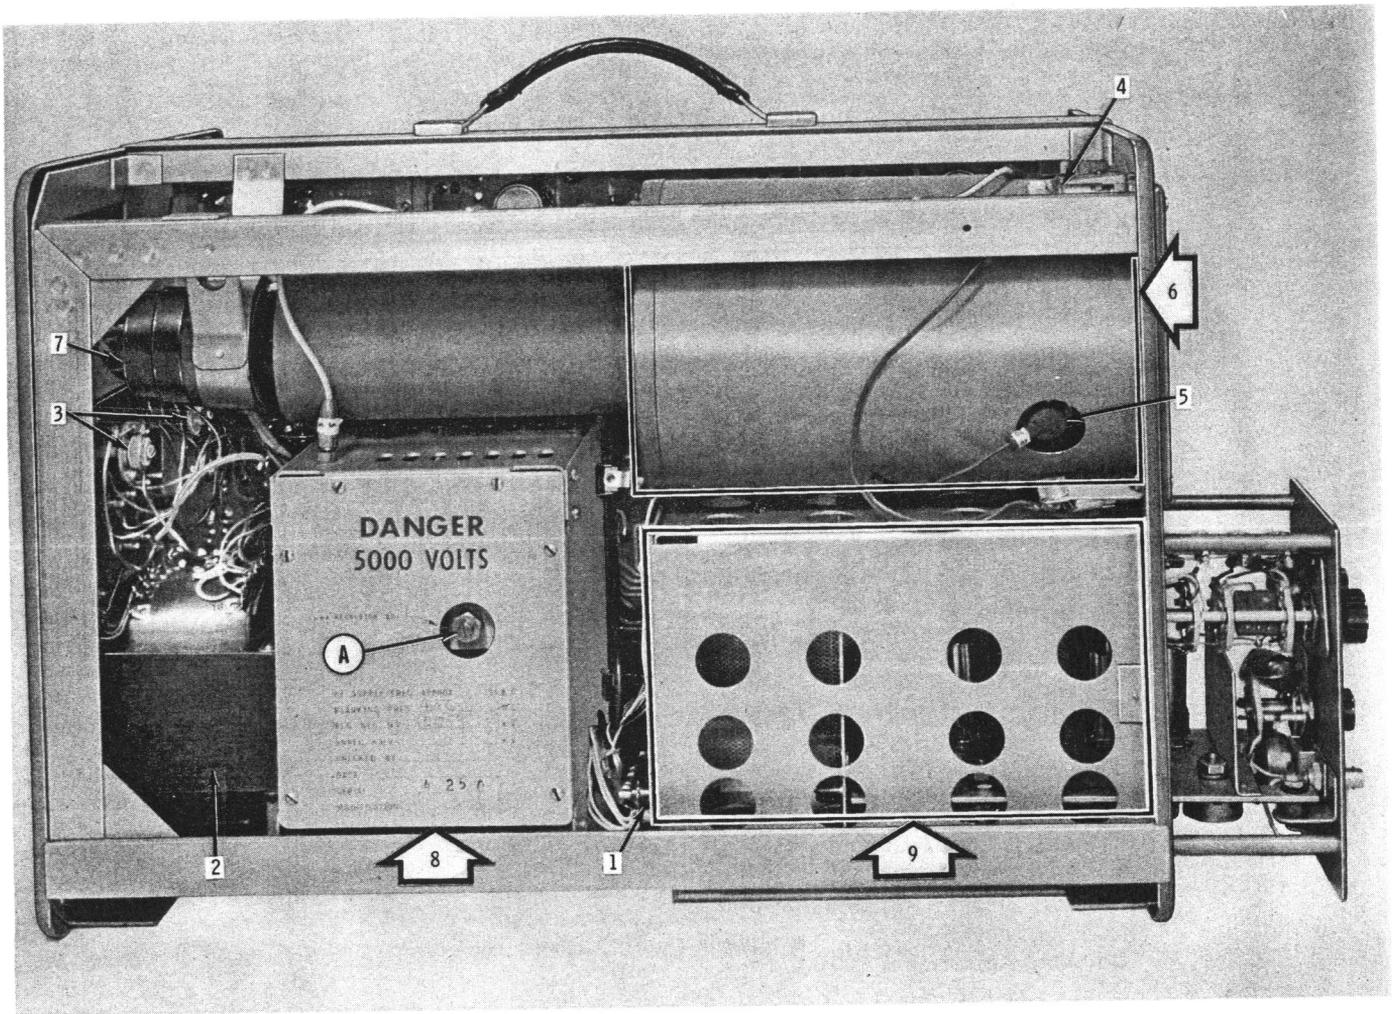
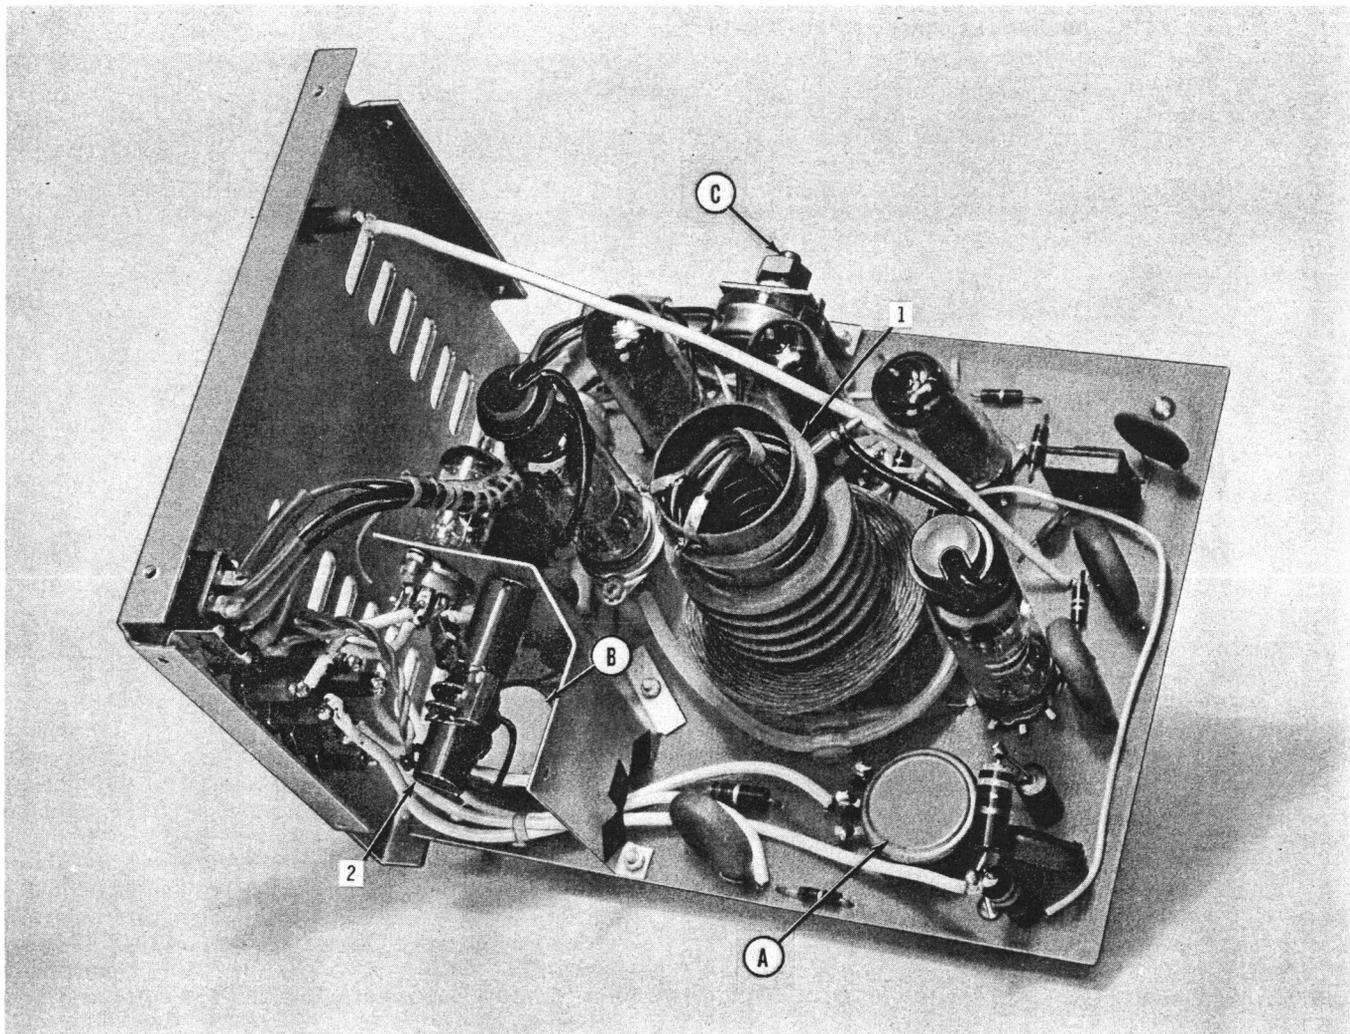

Figure 10. Left-Hand Side View, Model 104-D
Figure 11. High Voltage Power Supply
KEY TO FIGURE 10:
8. High Voltage Power Supply Assembly (see figure 11)
KEY TO FIGURE 11:
Check tube V601; check for -2.6 kilovolts at J4. If V601 is replaced, or if -2.6 kilovolt level is incorrect, adjust R258 (see "C", figure 11 and "A", figure 10), use a 20,000 ohms per volt voltmeter for measurement.
Check resistor R227; if replaced, readjust R258 in high voltage power supply (see "C", figure 11) for -2.6 kilovolts at J4.